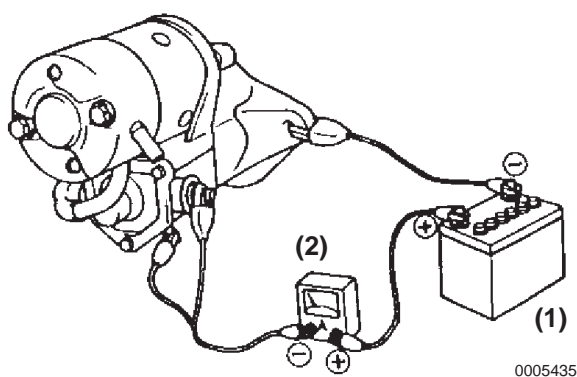

Figure 10-47
1. Connect the battery (**Figure 10-47, (1)**) and ammeter (**Figure 10-47, (2)**) to the starter.